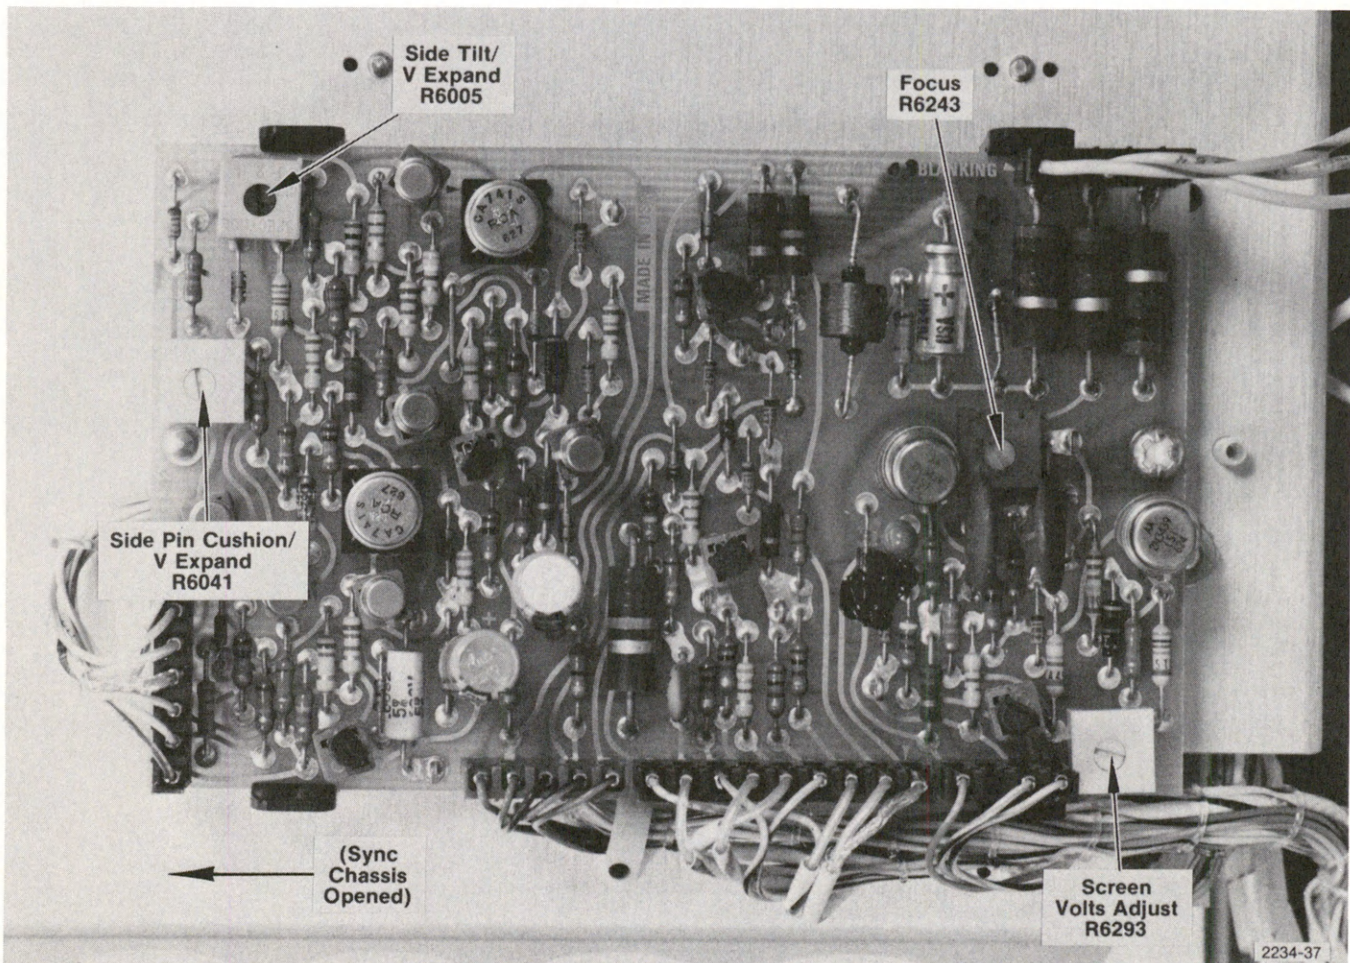

Fig. 6-20. Blanking board test point and adjustment locations.
- CHECK/ADJUST—Focus R6243, (see Fig. 6-20) for best focus of the horizontal crosshatch line at the center of the monitor display.
c. CHECK/ADJUST—Side Tilt/V Expand R6005 (see Fig. 6-20) for straight vertical lines at the left and right sides of the monitor display; that is, minimum tilt. Adjust Side Pin Cushion/V Expand R6041 for minimum bowing.
d. ADJUST—If the SCREEN BIAS adjustments are near the end of their range, preset these adjustments to midrange. Adjust Screen Volts R6293 (see Fig. 6-20) so that the black bar areas just become black as described in step 7 of the Left Front-Panel Adjustment Procedure in Section 2. Continue on with steps 8 through 12 in the Section 2 procedure.